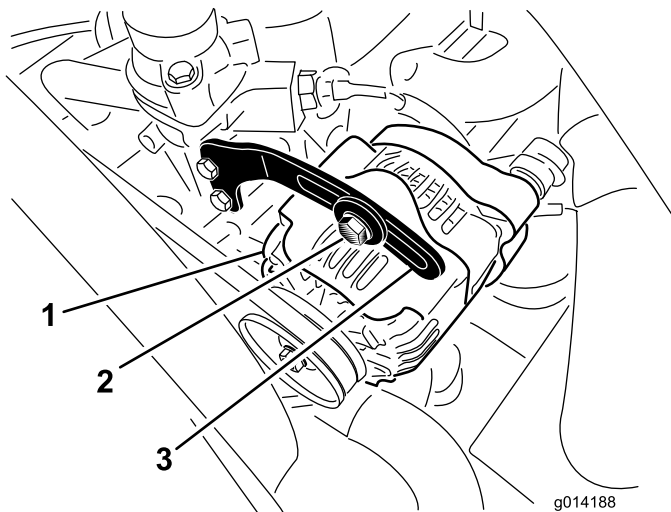

Figure 43
2. Check the tension of the alternator belt by depressing it (Figure 43) midway between the alternator and the crankshaft pulleys with 10 kg (22 lb) of force.
3. Loosen the bolt securing the brace to the alternator (Figure 43), and the alternator pivot bolt.